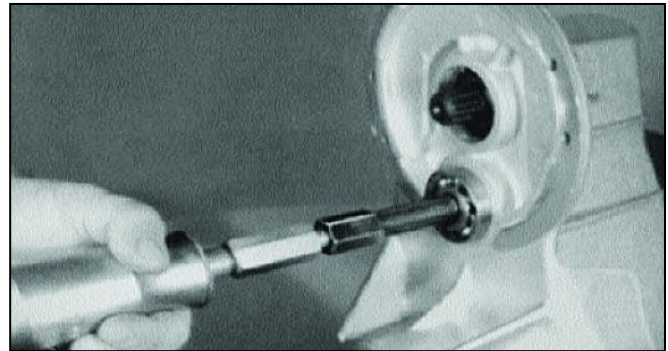

Figure 7-12
14. See Figure 7-12. Using an I.D. bearing puller attached to a slide hammer, remove intermediate bearing (10) from flange side of housing.